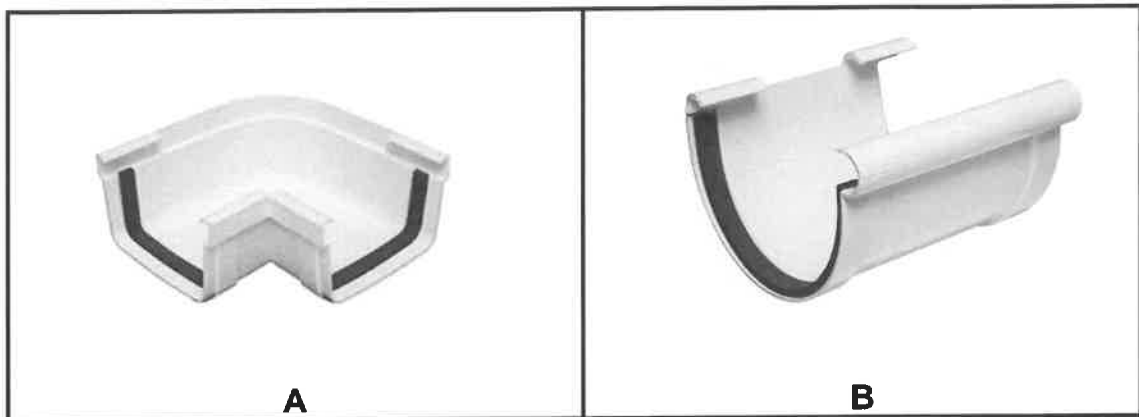

FIGURE 5.2
- D All the above-mentioned (1)
5.2 FIGURE 5.2 shows gutter components.